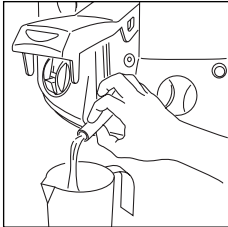

fig. 13
5. Allow the oil or fat to drip into a container (fig. 13).